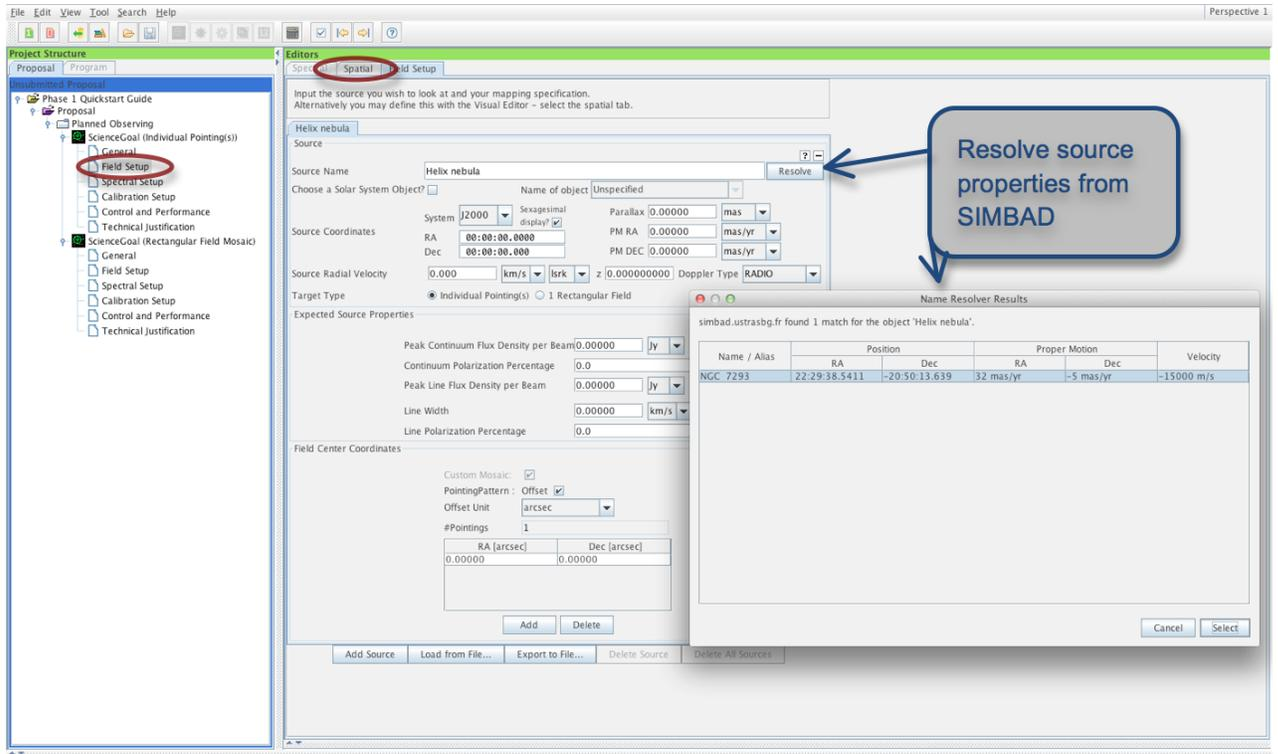

Figure 3: Adding the source information in the Field Setup pane.
**Enter the information on your science target** (or targets) in the *Field Setup* editor pane (see Fig. 3). If your source has an entry in SIMBAD or NED, you can simply type in its name in the *Source Name* field and resolve the coordinate and velocity information from there (see Fig. 3), instead of filling it in manually. Please be aware that it is your responsibility to **ensure that this information is correct**. Since the source coordinates and the velocity are used by the OT to calculate the pointing(s) and the sky frequencies respectively, it is vital that they are correct in the submitted proposal. Solar System targets can be selected from a pull-down list if the *Choose a Solar System Object* box is checked.